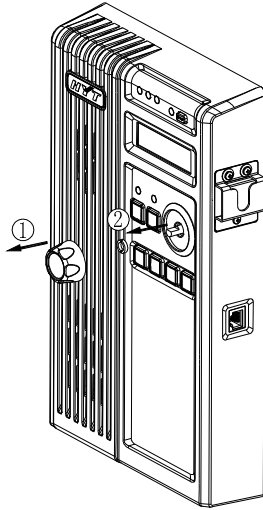

Figure 3
1. Remove the **Volume Control** knob □ shown as Figure 3.
2. Remove the nut □ using a special spanner, shown as Figure 3.